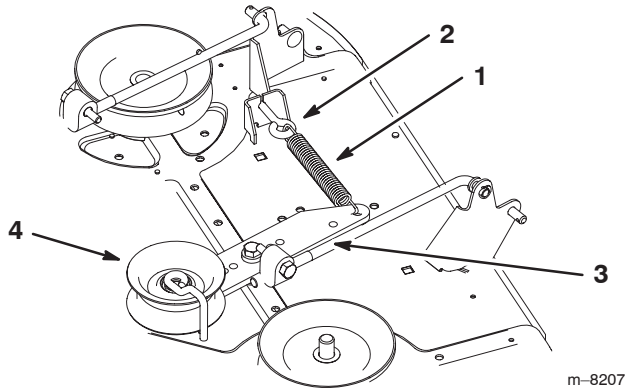

Figure 38
7. Unhook the spring on the idler pulley arm from the bracket on the mower (Fig. 38).